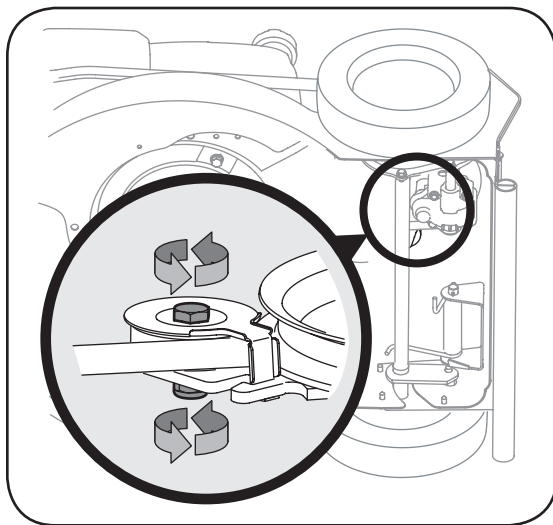

Figure 5-6: Loosen bolt and nut on belt keeper and idler bracket.
8. Loosen the belt keeper bolt and lock nut half a turn, Figure 5-6.